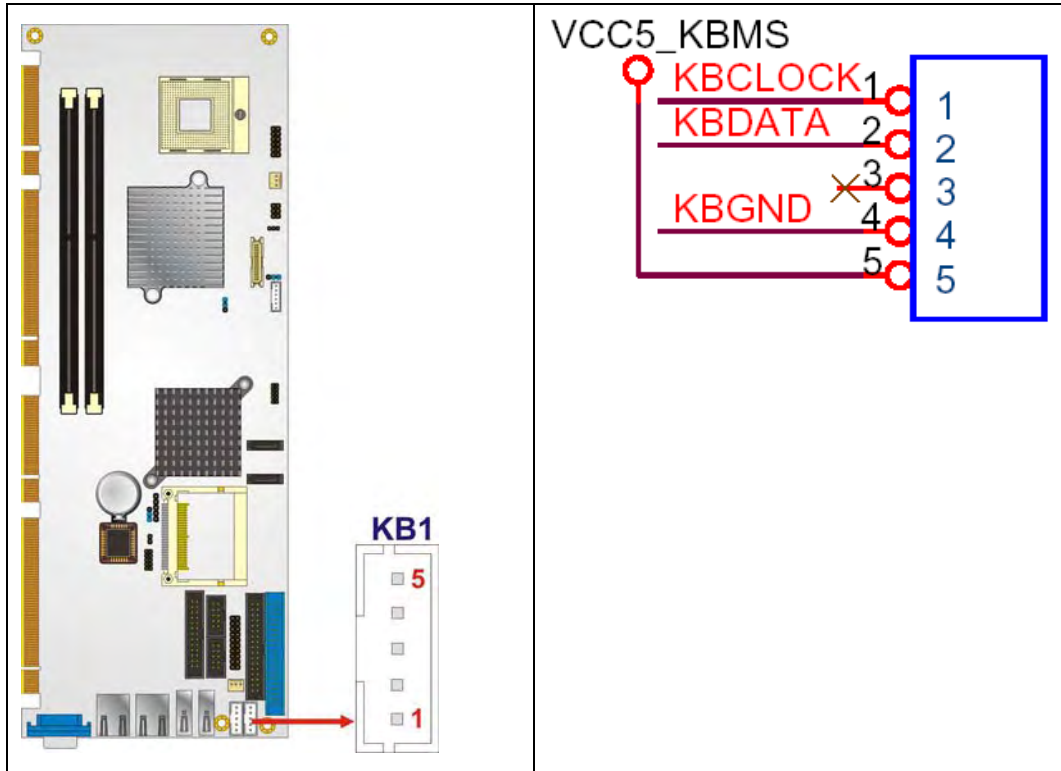

Figure 4-11: Keyboard Connector Location
- CN Location:** See Figure 4-11